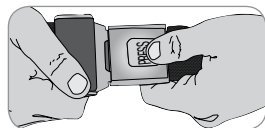

Fig. 24-Chair belt sensor
1. Test several places along the entire surface of the sensor by applying and removing pressure to make sure the alarm activates when pressure is removed from the sensor (Figs. 22a, b) or when you unfasten the chair belt sensor (Fig. 24). If the alarm and/or sensor do not function properly, remove the alarm and sensor from service and replace them with a properly functioning alarm and/or sensor. DO NOT use the alarm or sensor if it does not activate each time weight is removed from the sensor, or the chair belt sensor is unfastened.
In addition to steps 1-6 under “FOR SAFE USE IN ALL SENSOR MODES” (page 21), press self-release button to unfasten buckle, or separate hook and loop straps (Fig. 24). Alarm should activate each time you do this.